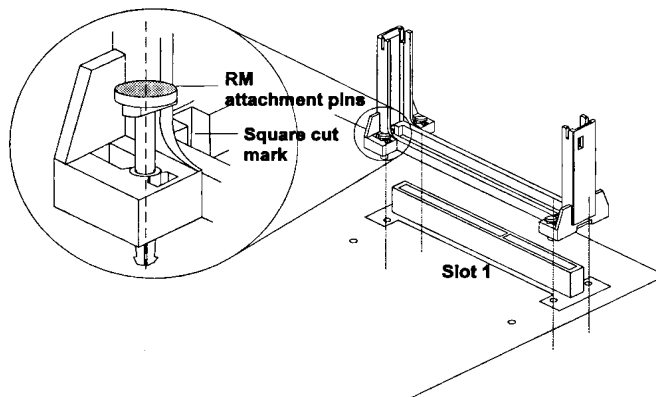

Figure 2-5: Mounting the RM onto Slot 1.
2. Mount the RM onto Slot 1. Make sure that the square cut mark of the RM has the same orientation as Pin 1 of Slot 1 (see Figure 2-5). Then, insert four RM attachment pins through the RM to secure it to the motherboard.